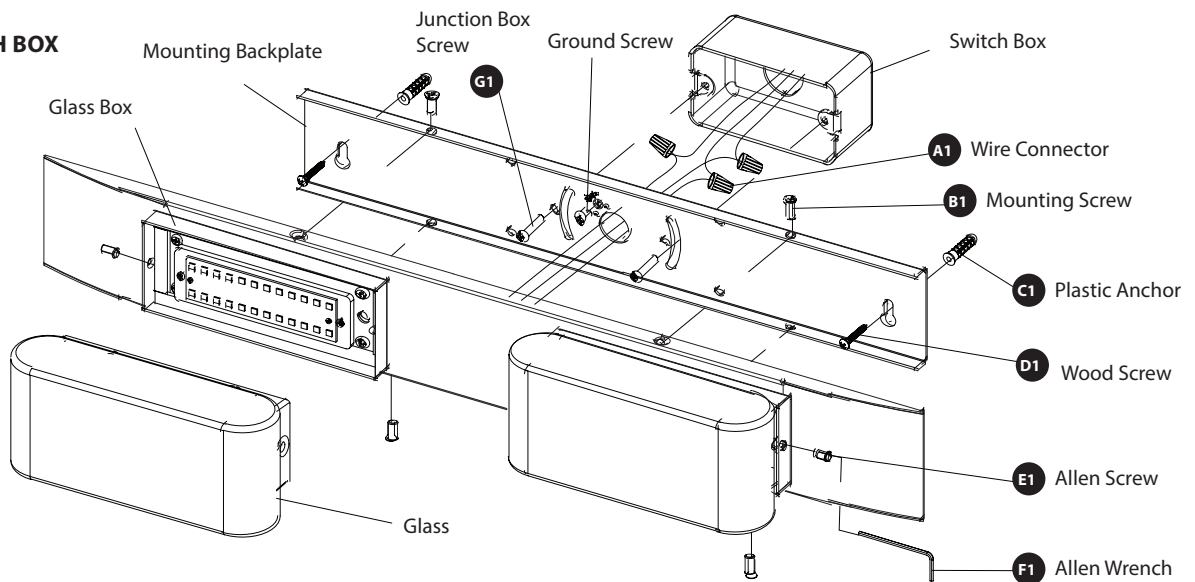

FIG.2
MOUNT ON JUNCTION BOX (Fig. 2)
6. Secure the mounting ring to the junction box using junction box screw (G1). Make sure the two holes(spacing 2-3/4") are horizontal as shown in **Fig 2**. The side of the mounting plate marked "GND" must face out.